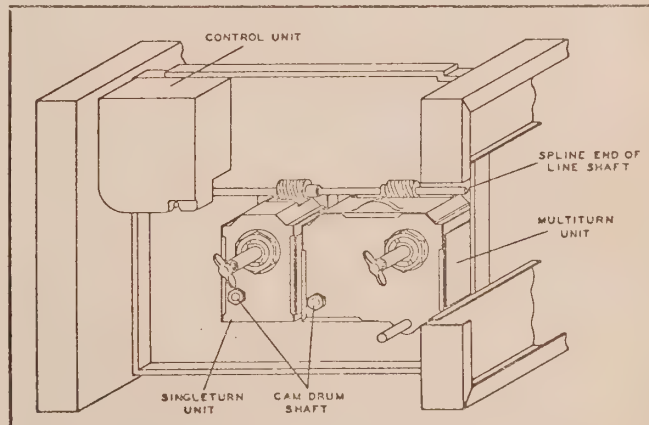

Figure 5-4. Autotune Synchronism Adjustments
7. Insert a number 10 Bristo wrench into the end of the shaft of the cam drum of the multi-turn unit. (Refer to figure 5-4.)
12. Insert the Bristo wrench into the end of the cam drum. (Refer to figure 5-4.)